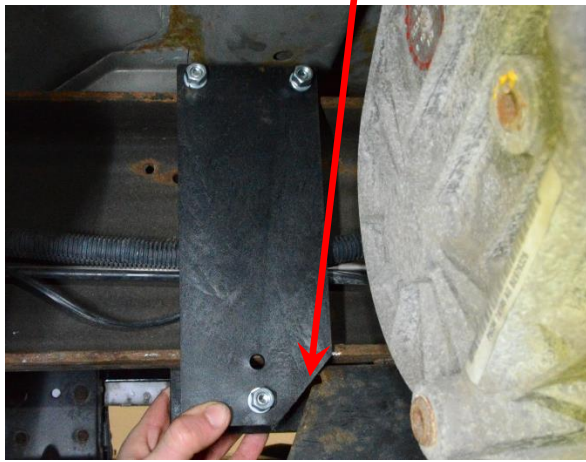
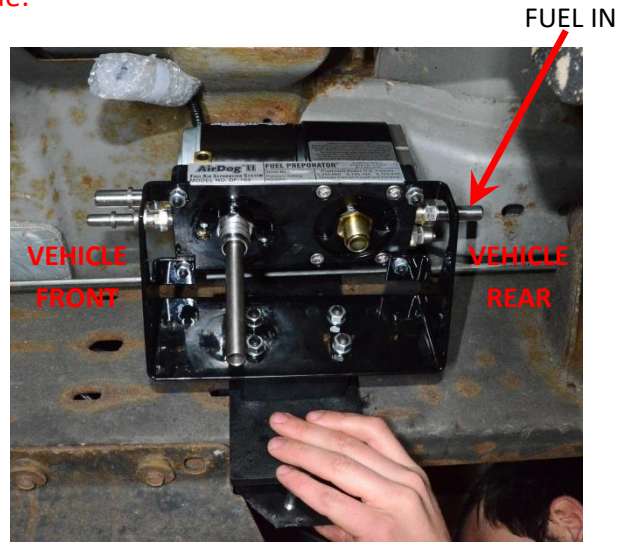

FIGURE 9
FIGURE 10
- 4-6. Clamp the frame between the AirDog® bracket assembly and the backing plate (figures 9 and 10) using the 3/8" bolts, lock washers, and nuts included in the kit. Properly torque all fasteners! **BE SURE** to mount the AirDog® II with the "FUEL IN" port toward the rear of the vehicle (Figure 10).